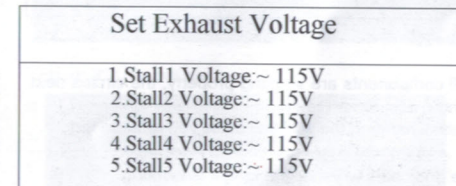

Figure 28
2. Using the SCROLL DOWN key, move to option 4: "Set Exhaust Voltage". Press ENTER again to move into the "Set Exhaust Voltage" screen. SEE FIGURE 28.
4. Using the SCROLL UP or SCROLL DOWN keys, select the appropriate voltage. **NOTE: Voltage can only be decreased or increased in increments of five (5).**